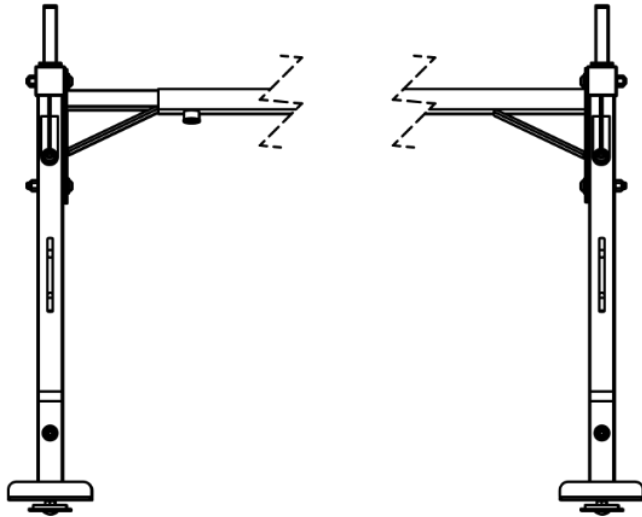
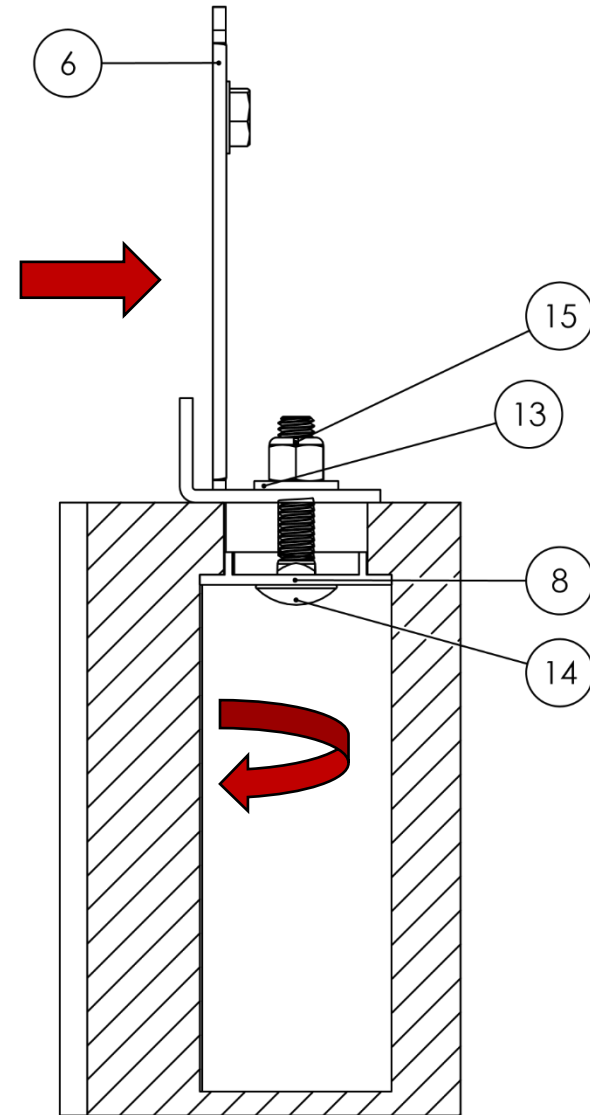

Figure 3
Figure 4
2. **Install the Rack Bases.** Examine the Bases (Item No. 6) and notice the upright flange. The base must be positioned so that this flange is on the outside of the bed as shown in Figure 3. To install the base, place it on the truck bedrail and position it so that the opening found on the bottom of the base is aligned with the bolt projecting up out of the stake pocket. As shown in Figure 4, slide the base forward so that its bottom can be clasped between the Carriage Bolt (Item No. 14), the Washer (Item No. 13) and the Lock Nut (Item No. 15). Once the base has been pushed forward, use a wrench to tighten the assembly until the washer and lock nut are in contact with the bottom of the base. **DON'T forget to apply a little grease to the screws before tightening or it may be hard to remove the nuts later.**